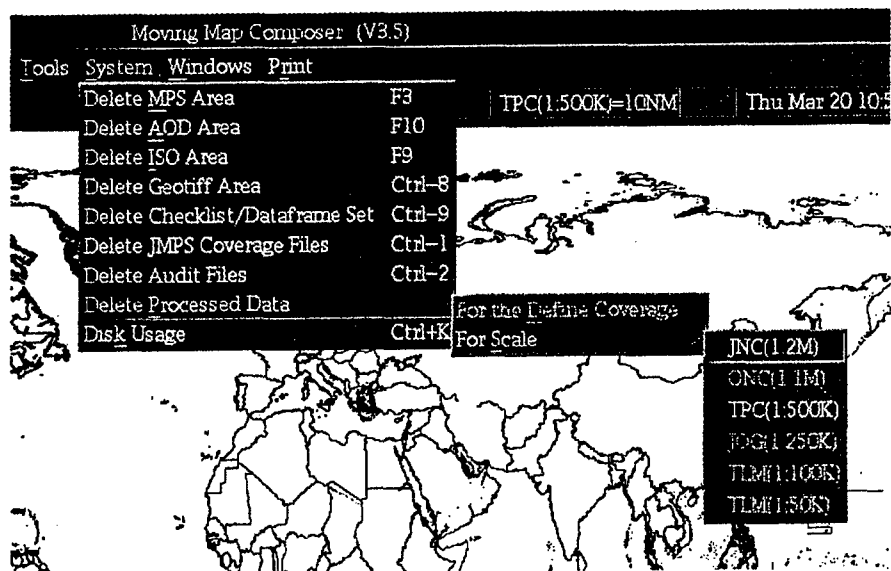

Fig. 71 — Delete processed data option
- *Delete Processed Data*: Clears the defined area of CAC data coverage for the specified chart scale on the hard disk (Fig. 71).